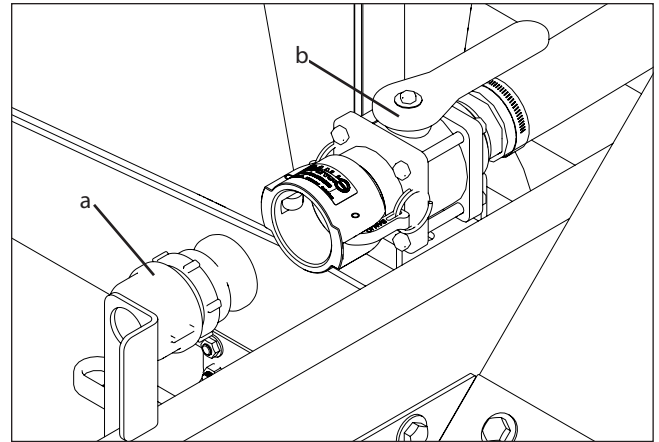

Figure 4: Transfer Line
2. With transfer pump engaged, uncouple the transfer hose from its storage mount (a) (Figure 4) (Make sure that the valve (b) is still closed).
4. The transfer line must be hooked up to the sprayer, and the valve (b) (Figure 4) opened.
1. With pump engaged, uncouple the transfer hose from its storage mount (a) (Figure 4, page 11) (Make sure that the valve (b) is still closed).